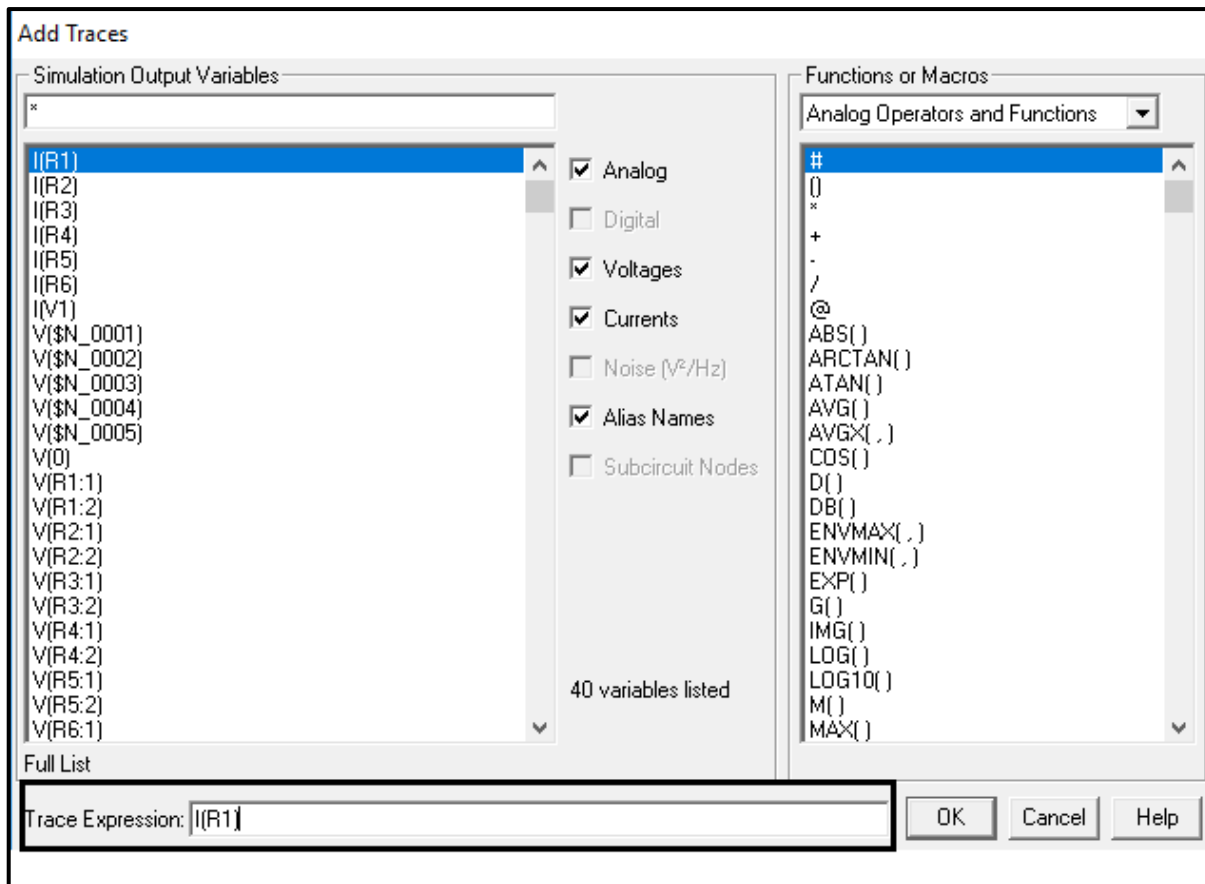

Figure.23
- Then the window shown in figure 23 will show up, in this window you will find a list of all variables in the circuit: (voltages and currents on all parts) to add a trace just click on it and it will show up in the field indicated in the box in figure.23.